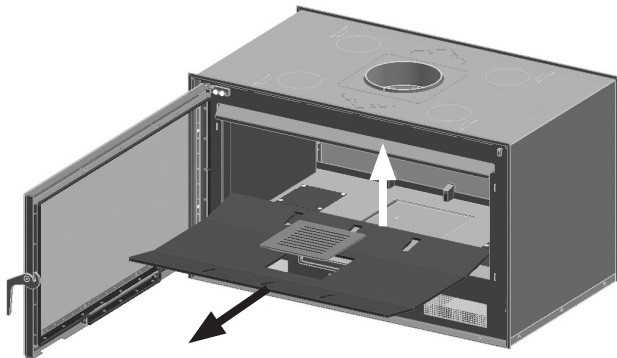

FIG. 3
1. Remove the cast iron grid and the base from the device. **Take special care with the vermiculite pieces, as they may break.** (Fig. 3)